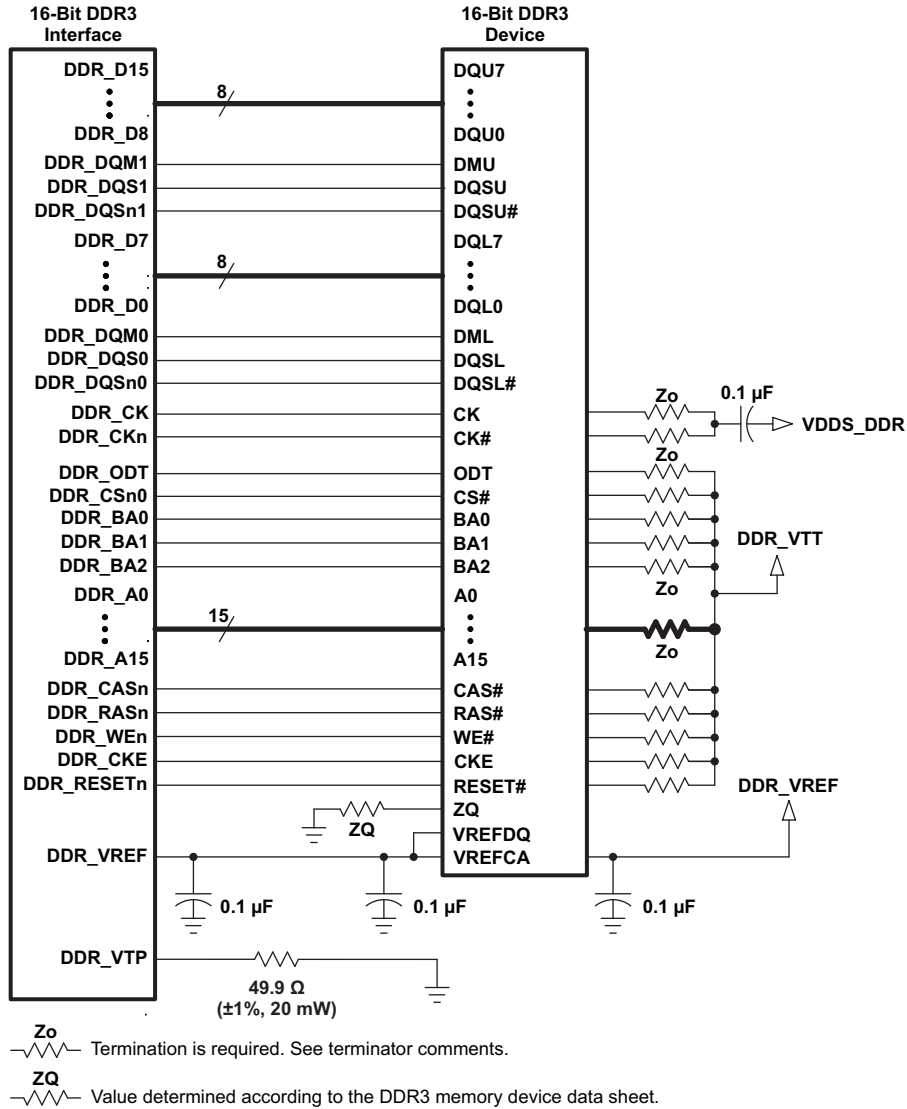
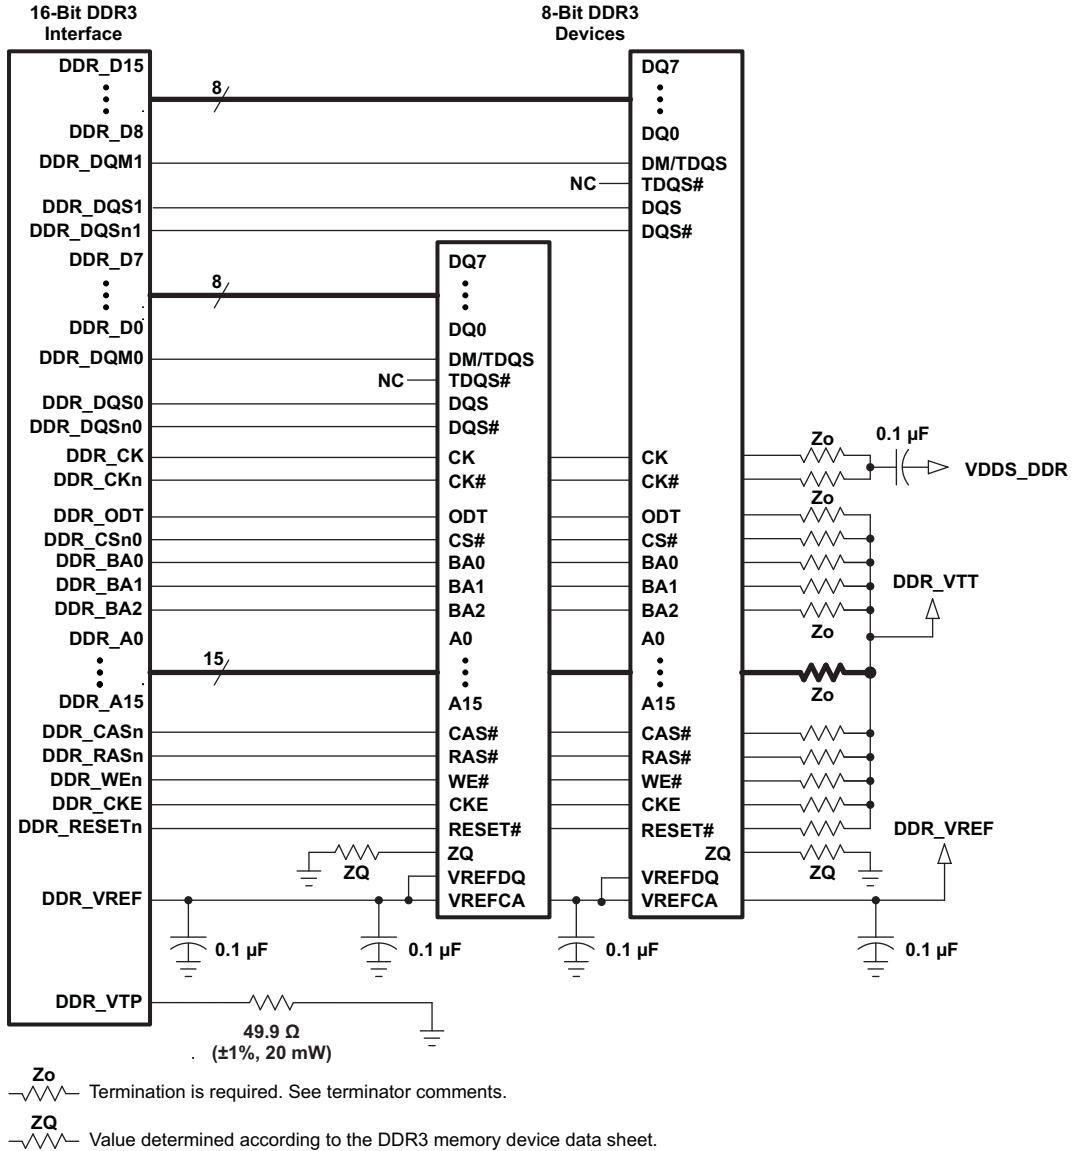

Figure 5-43. 16-Bit DDR3 Interface Using One 16-Bit DDR3 Device
Figure 5-44. 16-Bit DDR3 Interface Using Two 8-Bit DDR3 Devices
The DDR3 interface schematic varies, depending upon the width of the DDR3 devices used. Figure 5-43 shows the schematic connections for 16-bit interface on AM335x device using one x16 DDR3 device and Figure 5-44 shows the schematic connections for 16-bit interface on AM335x device using two x8 DDR3 devices. The AM335x DDR3 memory interface only supports 16-bit wide mode of operation. The AM335x device can only source one load connected to the DQS[x] and DQ[x] net class signals and two loads connected to the CK and ADDR_CTRL net class signals. For more information related to net classes, see Section 5.5.2.3.3.8.
(1) DDR3 speed grade depends on desired clock rate. Data rate is 2x the clock rate. For DDR3-800, the clock rate is 400 MHz.
(2) For valid DDR3 device configurations and device counts, see Section 5.5.2.3.3.1, Figure 5-43, and Figure 5-44.